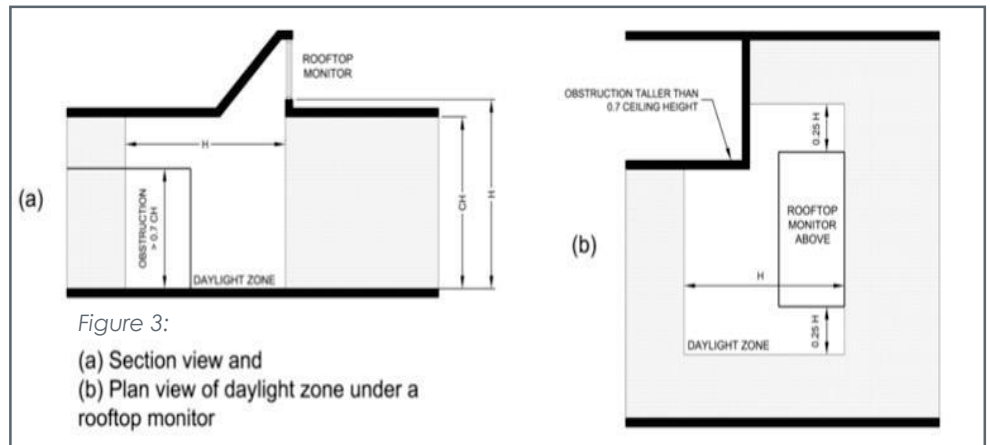

Figure 3:
- Where vertical fenestration is located in a rooftop monitor, the daylight zone extends laterally to the nearest partition that is taller than 0.7 times the ceiling height or up to 1.0 times the height from the floor to the bottom of the fenestration, whichever is less. The width extends to the nearest partition that is taller than 0.7 times the ceiling height or up to 0.25 times the height to the bottom of the fenestration, whichever is less (as shown in Figure 3).